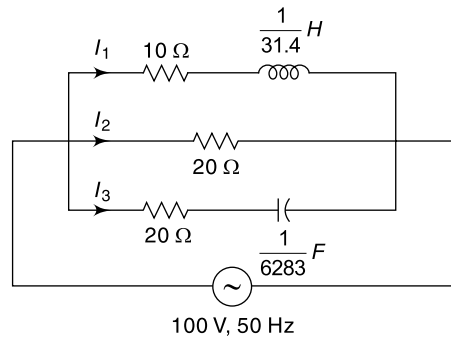

Fig. 5.34 Circuit diagram for Ex. 5.22
5.22 Find the branch currents, total current, Z and Y , apparent, active and reactive power and power factor in the parallel circuit shown in Fig. 5.34.